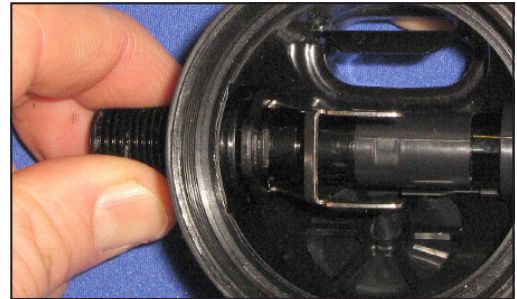

Fig. 45
27. Pull the **INLET CHAMBER (2) / ADJUSTMENT TUBE (27, 31)** assembly into **LX HOUSING ASSY (1)** until **RETAINING CLIP (16)** is fully seated in the **LX HOUSING ASSY (1)**. (Fig. 45)